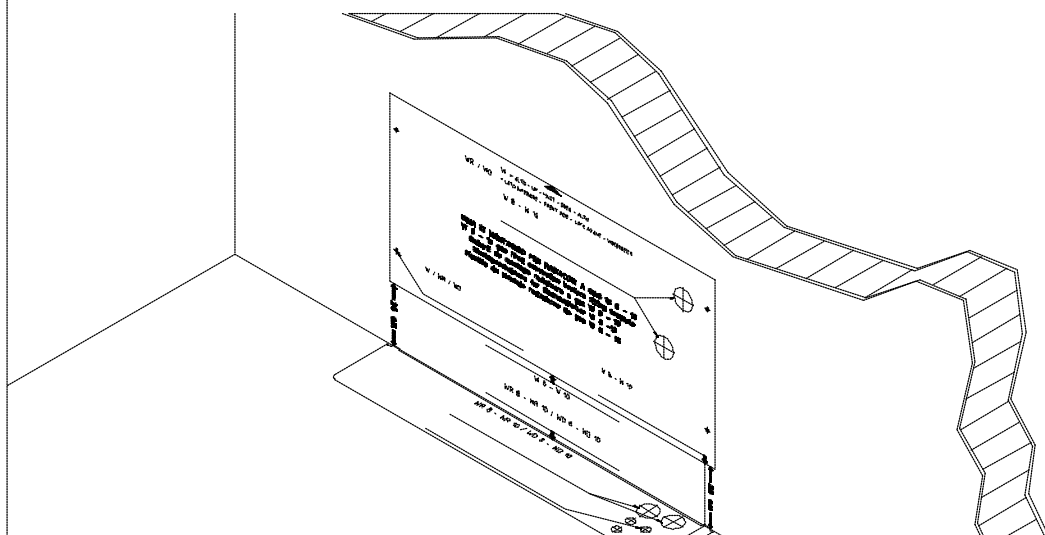

Fig. 18
**Version for wall installation (W):** Once the unit's position has been determined, bend the supplied paper template on the dashed line and apply it to the wall with adhesive tape (*fig. 18*)